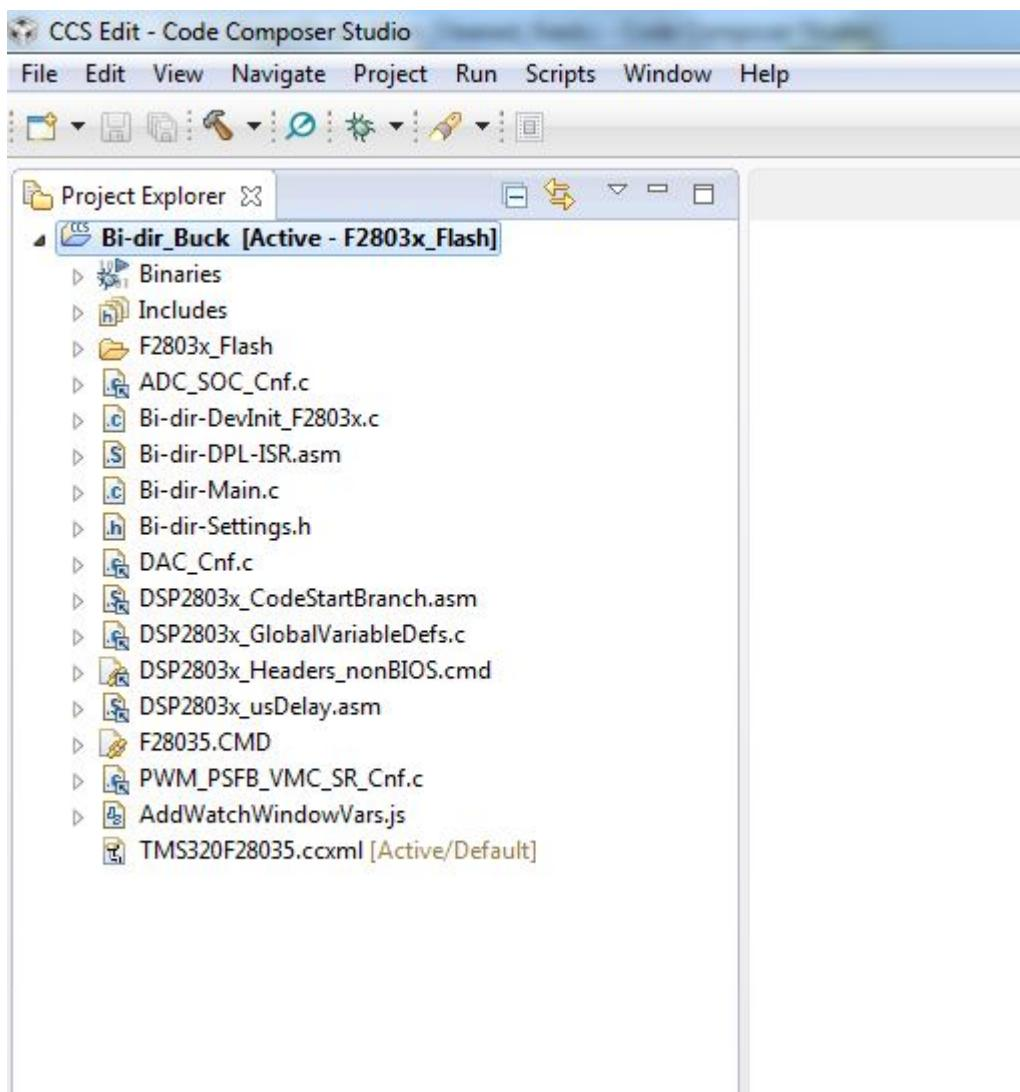

Figure 42. Buck Mode CCS Project Window
14. In the Project window on the left, click + to the left of Project. See Figure 42.